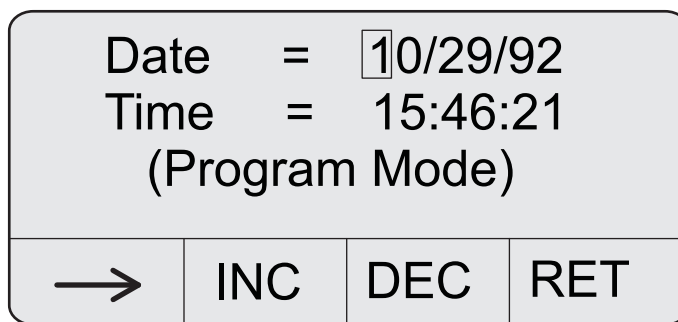

Figure 13 Date and time screen
1. Press **4 (CLK)** on the main screen. The Date and Time screen is displayed (refer to Figure 13).